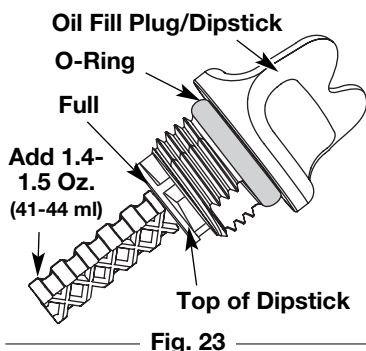

Fig. 23
5. Remove the oil fill plug/dipstick and check the oil level. Oil should be up to the top of the dipstick (Fig. 23).